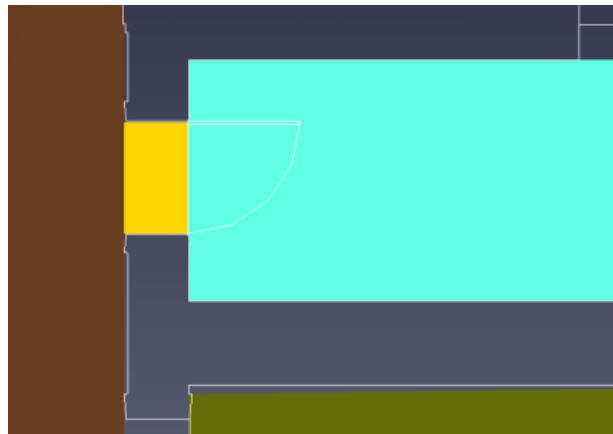

Figure 52. Thick door connecting the rooms
3. The created door will appear as an orange rectangle in the 3D and 2D views as shown in Figure 52.